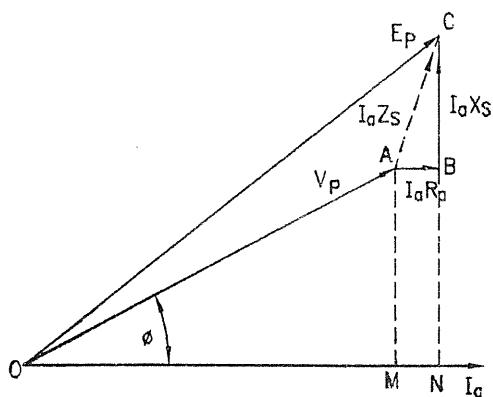
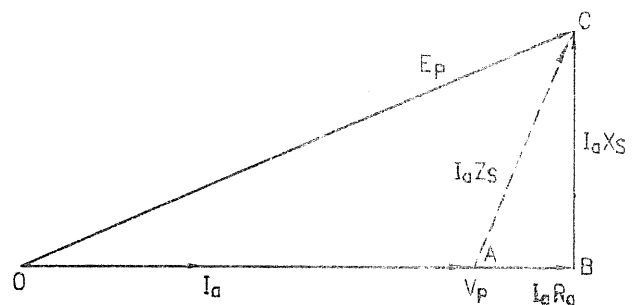
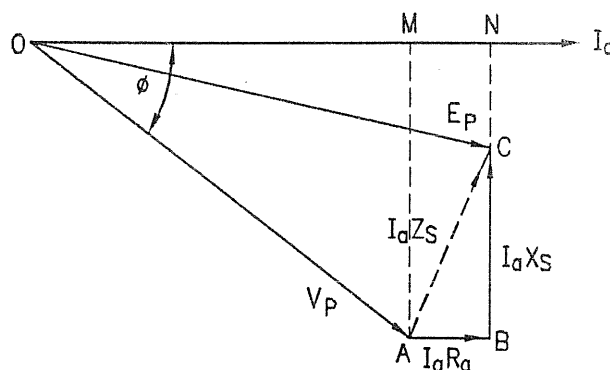

FIG. 4.59 : VECTOR DIAGRAM FOR LAGGING POWER FACTOR
FIG. 4.60 : VECTOR DIAGRAM FOR UNITY POWER FACTOR
FIG. 4.61 : VECTOR DIAGRAM FOR LEADING POWER FACTOR
- In Fig. 4.59, 4.60 and 4.61 vector diagrams taking current as reference vector are shown. In Fig. 4.59 vector diagram for lagging power factor, in Fig. 4.60 for unity power factor and in Fig. 4.61 the vector diagram for leading power factor are shown.
- From the vector diagram we can obtain the expression for the induced emf E_p . Refer Fig. 4.59.
- From vector diagram for unity power factor shown in Fig. 4.60,
- From vector diagram for leading power factor shown in Fig. 4.61,